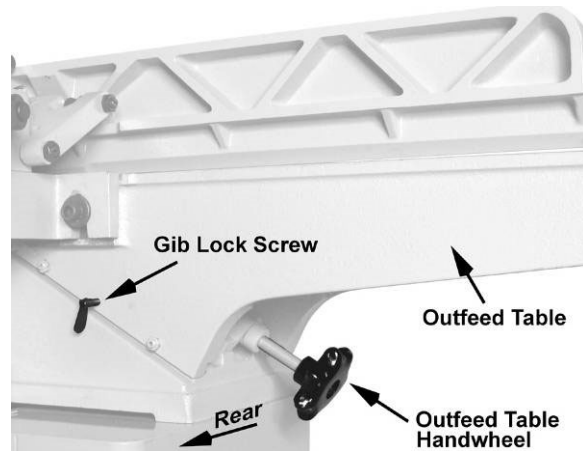

Figure 22
5. Loosen both *gib lock screws* (Figure 22).
7. Lock the *outfeed table* to this height setting by tightening the *gib lock screw* (Figure 22). The outfeed table adjustment is complete.